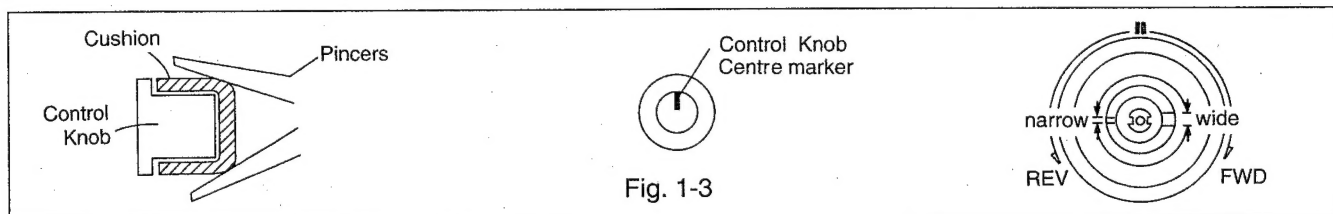

Fig. 1-3
A control knob with loose fitting should be replaced. (see Fig. 1-3):
- Insert the shuttle ring, matching the shape of recession. (See Fig. 1-3)